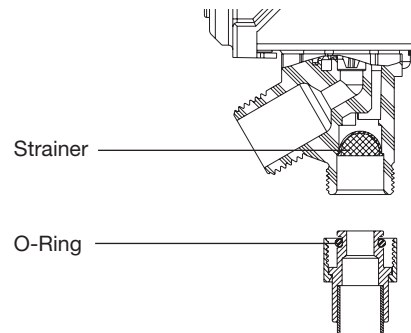

Figure 1
2. Service strainers on IntelliFlow® (see figure 1).